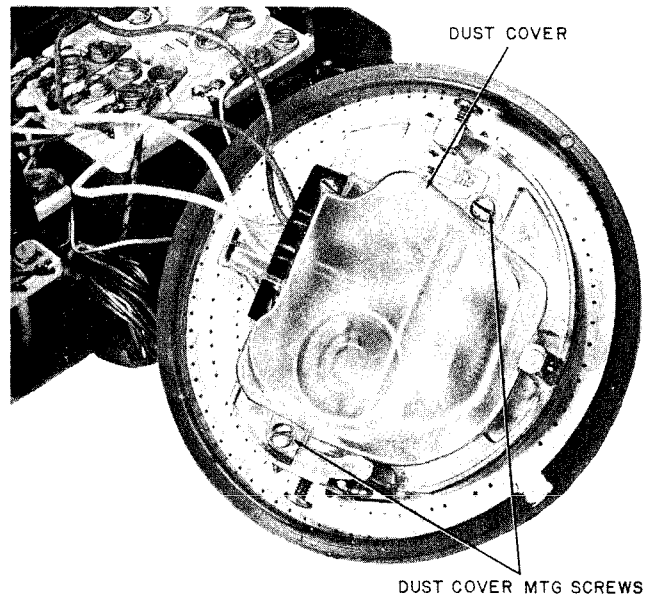

Fig. 25—7-Type Dial Removed From Set
(2) Remove dial from dial mounting (Fig. 25).